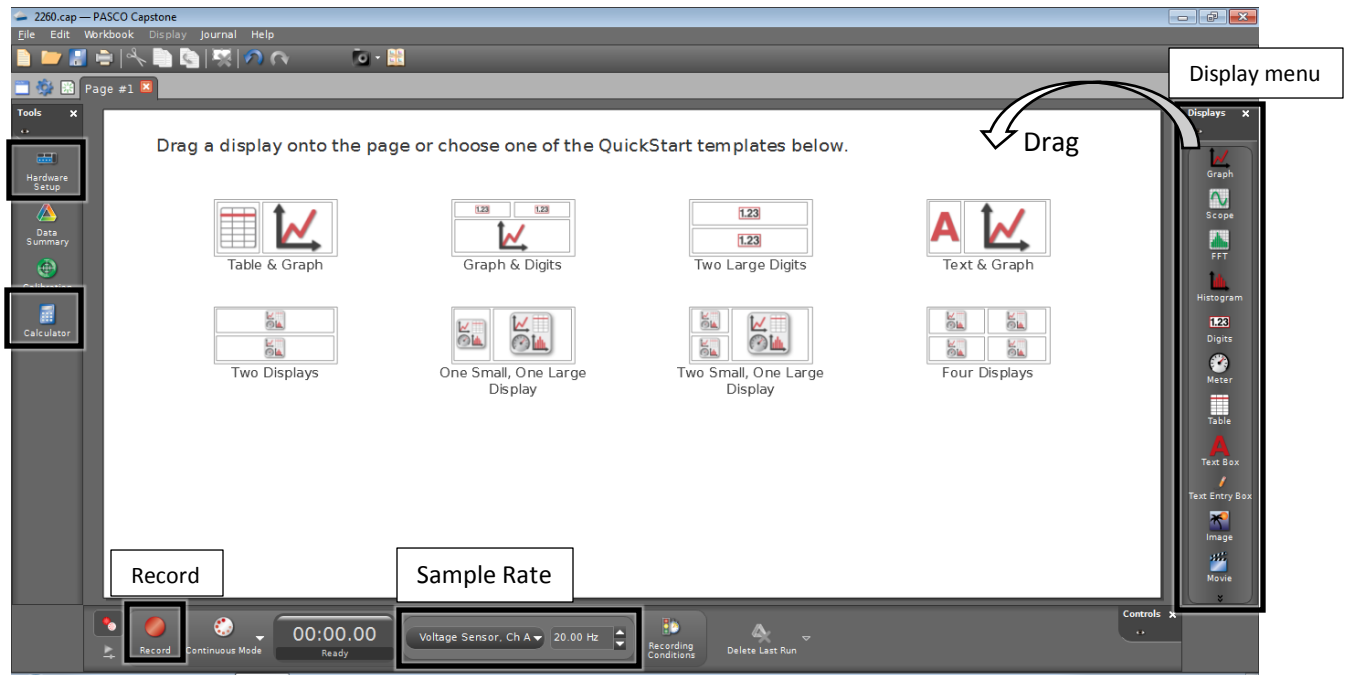
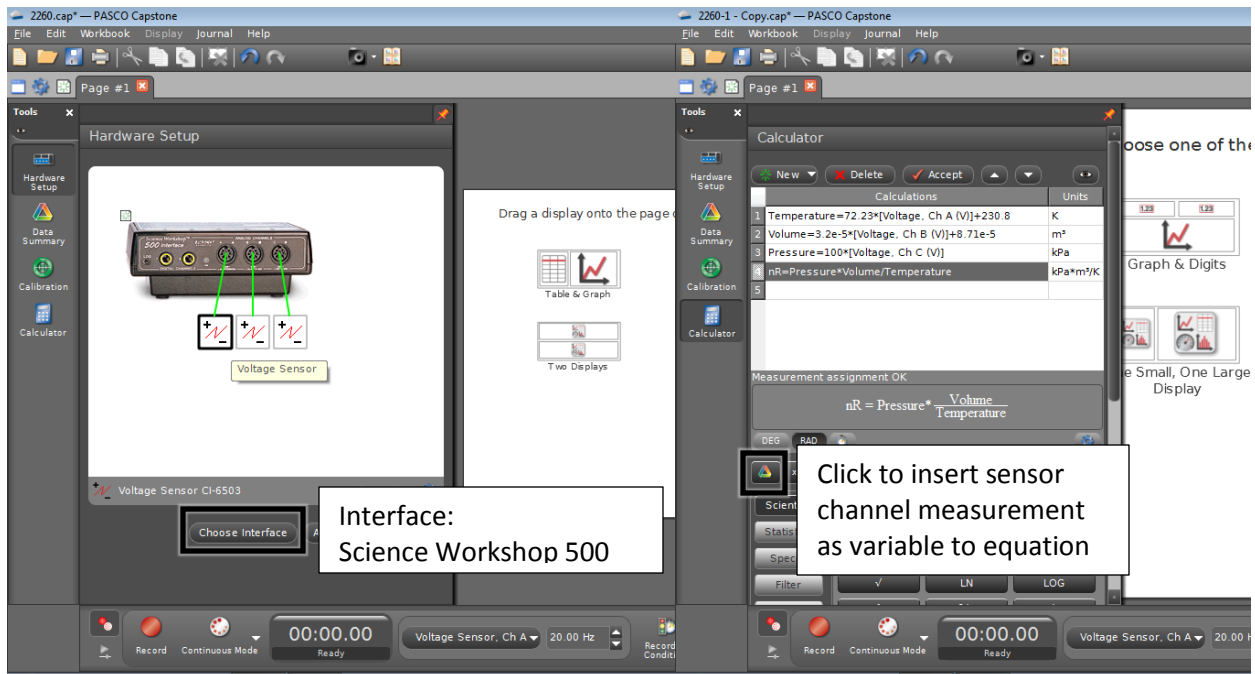

Figure 2 – Software overview
Figure 3 – Hardware setup and Calculator
2. Open *Capstone* on the computer. (Figure 2) Indicate that a *voltage* sensor is connected to each channel in the *Hardware Setup*. (Figure 3) Adjust the common *Sample Rate* to 1,000 Hz.
on the label on the side of the Adiabatic Gas Law Apparatus. Provide the unit also. (Figure 3)